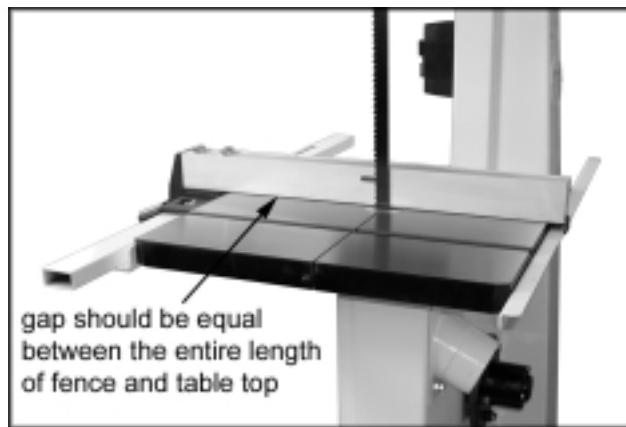

Fig. 11
- Check the clearance between the table and the fence. The gap should be the same at the front of the table as it is at the rear. If the gap width is different, adjust the foot at the rear of the fence until the gap width is the same, Figure 11.